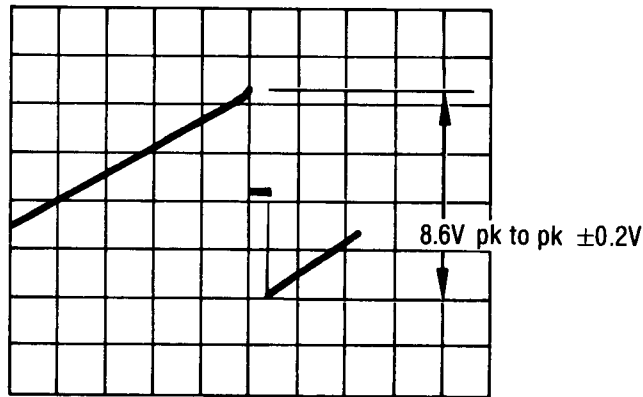

Figure 5-28. YTF DAC Adjustment
6. Adjust A5A5R60, Peak for a voltage reading of 8.6V peak to peak $\pm 0.2V$. See Figure 5-28.